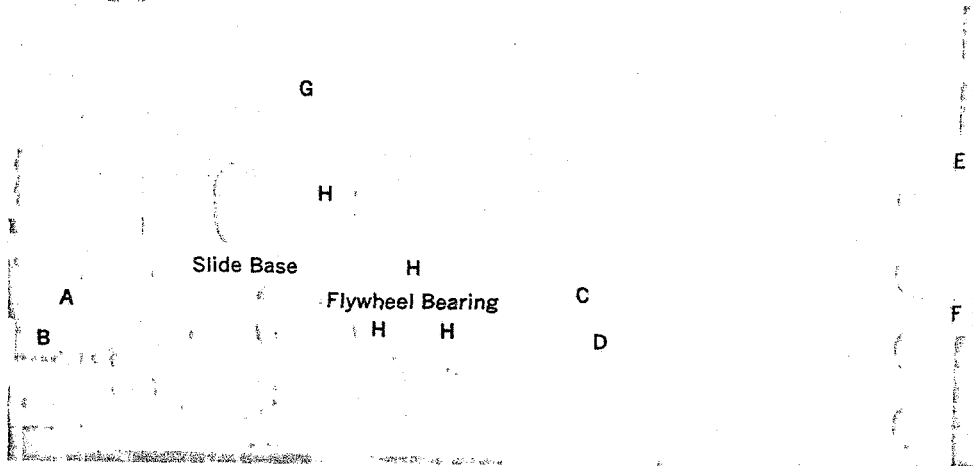

Fig. 4-2
(From A to F in Fig. 4-2).
(Detach E Type washer ⑥ and spring ⑨ in Fig. 4-2).
(Remove 3) of screws, I in Fig. 4-2).